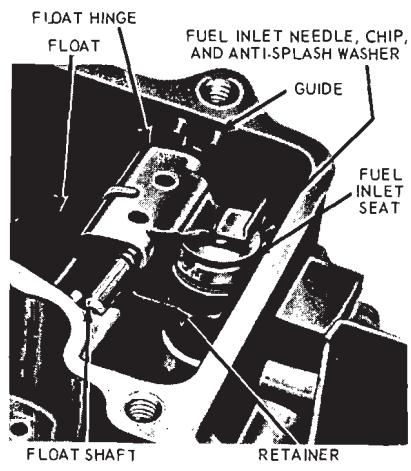

FIG. 12—Float Assembly
pry the float shaft retainer from the fuel inlet seat (Figs. 12 and 13). Remove the float, float shaft retainer and fuel inlet needle assembly. Remove the retainer and float shaft from the float lever.
14. Slide the float shaft into the float lever (Fig. 12). Position the float shaft retainer on the float shaft.